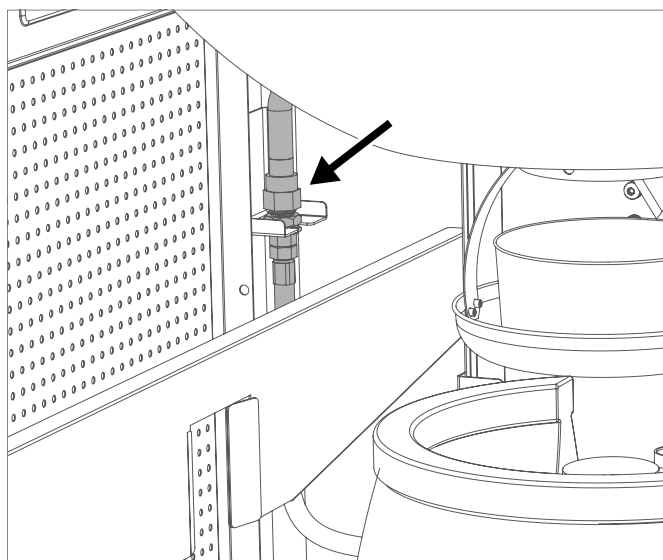

Fig. 2A
2. Open the gas supply at the bottle and brush a soap solution (50% liquid soap and 50% water) onto all parts that carry gas (connection at the gas bottle / gas pressure regulator / gas hose / gas inlet / connection on the valve). You can also use a leak spray (**see Fig. 2A and 2B**).